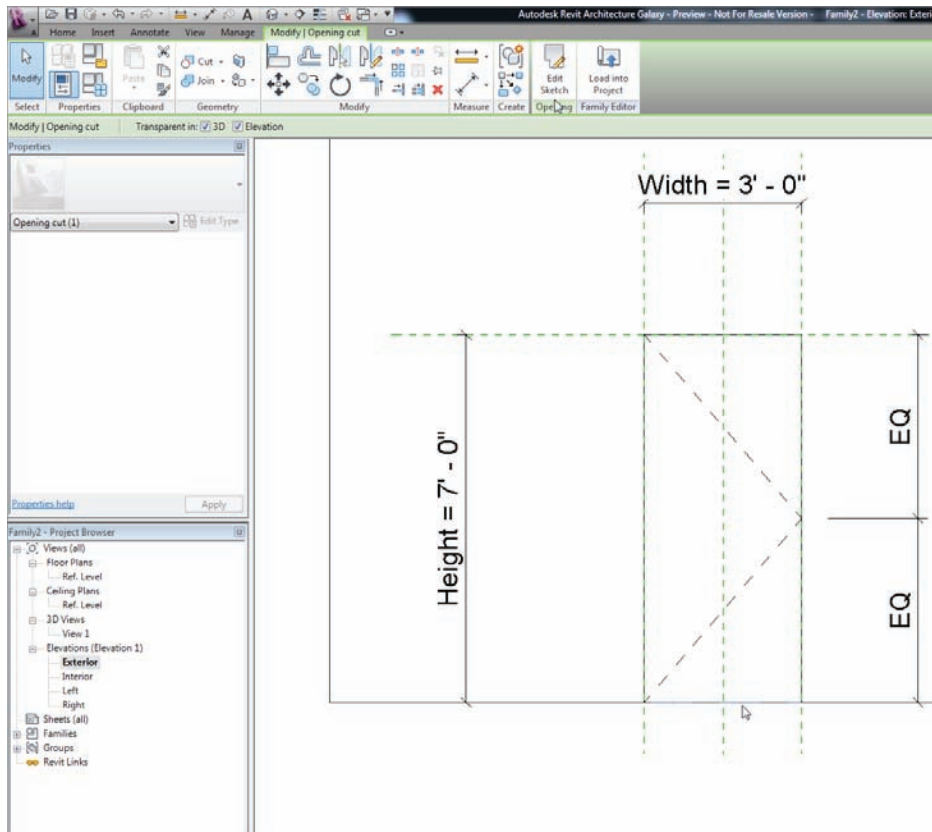

FIGURE 17.14 Editing the door opening
5. In this view, you see a wall and an opening. Select the bottom of the opening, as shown in Figure 17.14.
7. Click the Edit Sketch button on the Opening panel (see Figure 17.14).